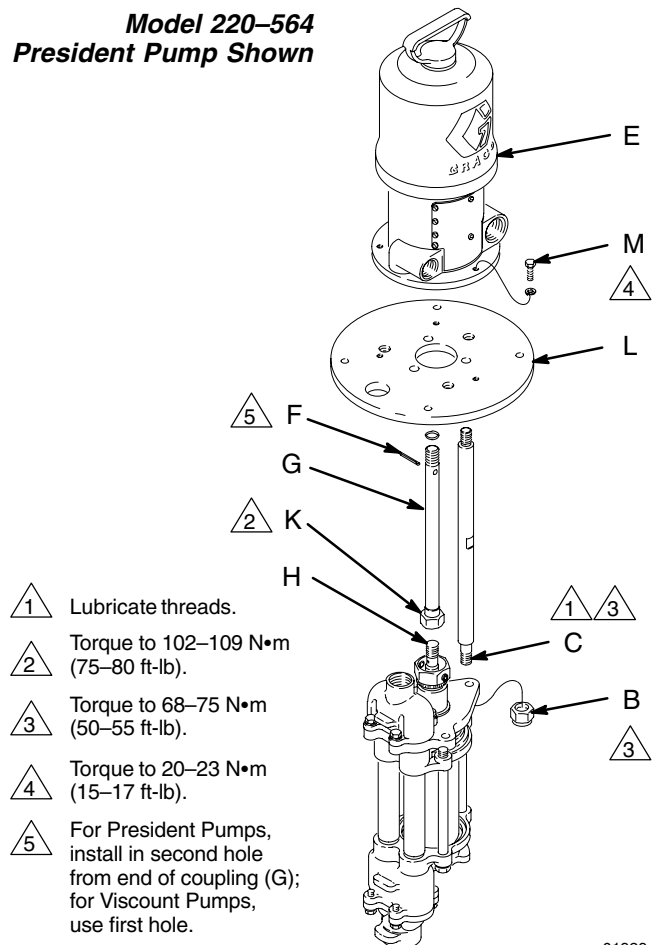

Fig. 8
1. Loosen the screws (M) holding the adapter plate (L) to the motor (E). See Fig. 8.
2. Screw the tie rods (C) into the adapter plate (L) and torque to 68–75 N•m (50–55 ft-lb).